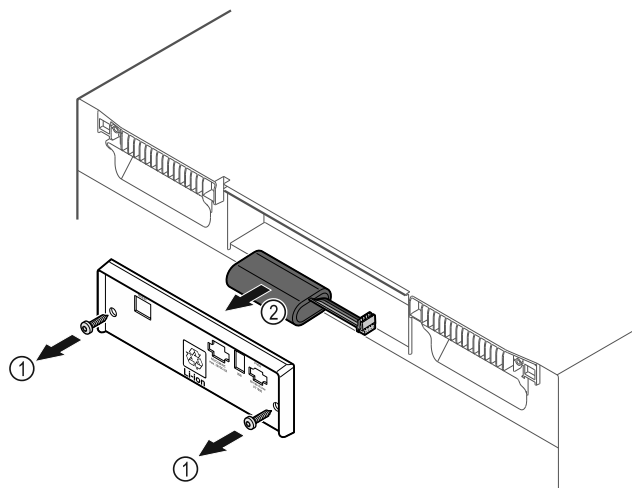

Fig. 237
- Unscrew screws and remove cover from the back of the appliance Fig. 237 (1).
- Disconnect and remove battery Fig. 237 (2).